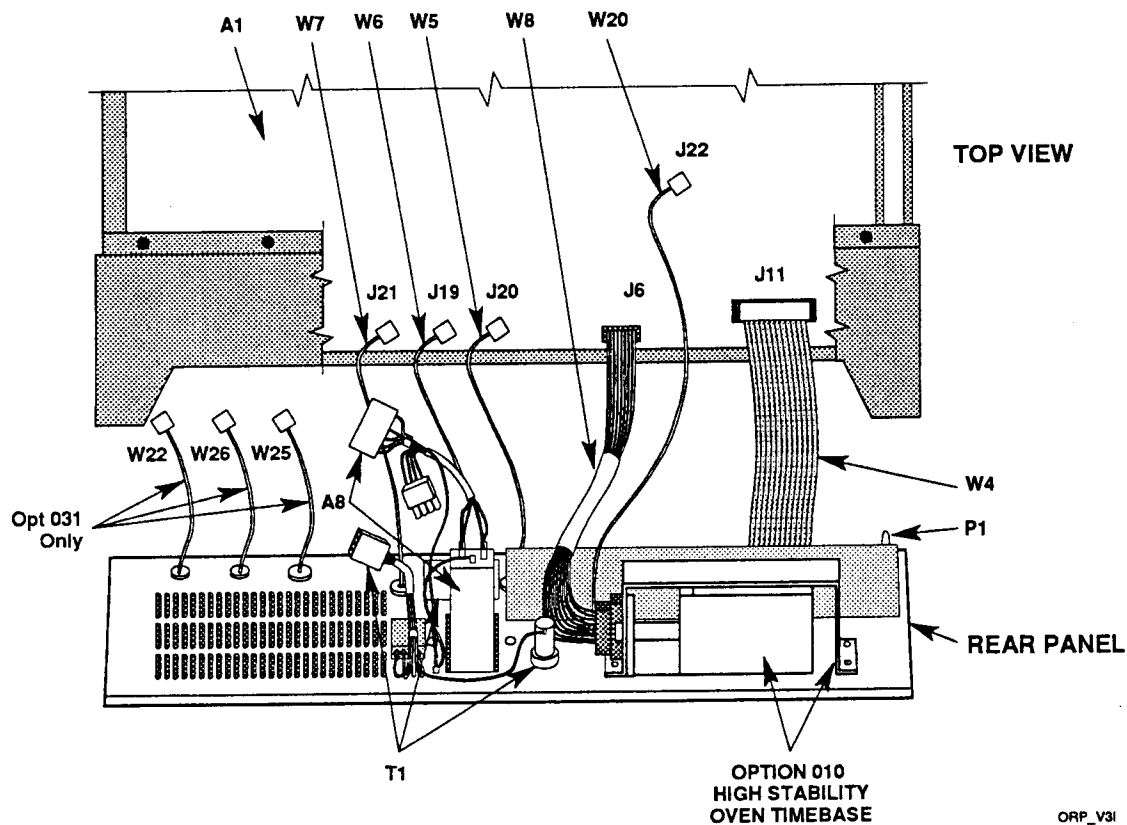

Figure 7-2. Option 010 Rear Panel Replacement
4 Now, to install the Option 010 High Stability Oven Timebase, which is a rear panel assembly as shown in *Figure 7-2* on page 7-6, perform the following:
- d. Connect the Test Limit Output cable (W7), Reference Out cable (W6), and Ext. Ref. In. cable (W5) of the Option 010 rear panel to the corresponding connector jacks on the A1 Main Board Assembly as shown in *Figure 7-2*.
- e. Connect cable W8 of the Option 010 rear panel to J6 on the A1 Main Board Assembly as shown in *Figure 7-2*.
- f. Connect the coaxial cable (W20) to J22 on the A1 Main Board Assembly as shown *Figure 7-2*.
- g. Connect the HP-IB ribbon cable (W4) of the Option 010 rear panel to J11 on the A1 Main Board Assembly as shown in *Figure 7-2*.